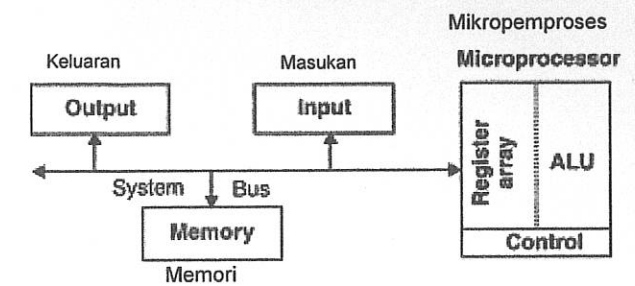

Figure B4 / Rajah B4
(b) The microprocessor consists of **THREE (3)** segments (See Figure B4). Interpret each of the following segments in a computerized control system.
*Mikropemproses terdiri daripada TIGA (3) bahagian berikut (Lihat Rajah B4). Tafsirkan setiap bahagian berikut dalam sistem kawalan berkomputer.*